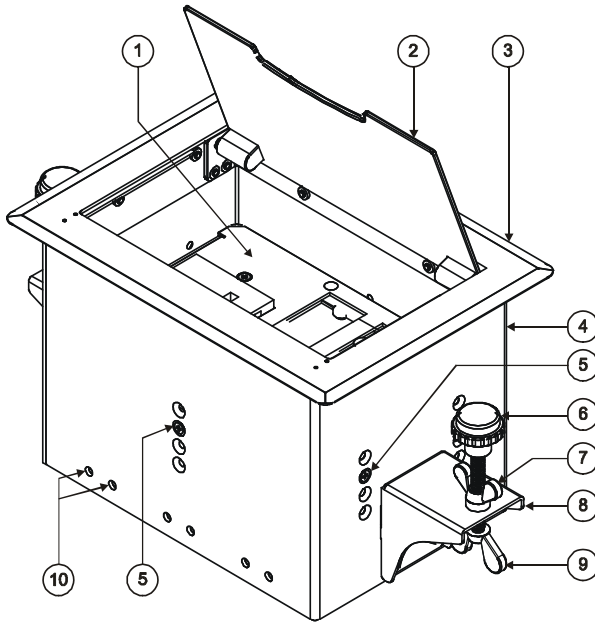

Figure 2: TBUS-1 Table Connection Bus Top View
Figure 2 and Table 1 define the **TBUS-1** unit:
1. Remove the six height adjustment screws (two screws on each side and one screw on the front panel and one on the rear panel, as shown in *Figure 2*), while supporting the surface from underneath with your fingers.
2. Take the support brackets under the table and place them into the support bracket grooves on both sides of the unit (see *Figure 2*).